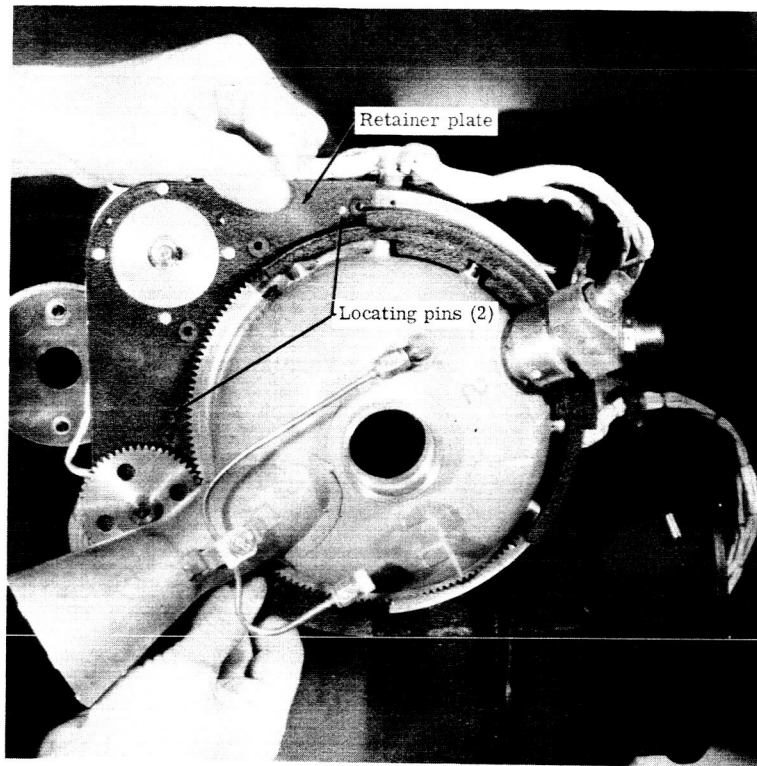

Figure 2-8. Installation of control rocket.
- e. Press the motor into place by hand and, at the same time, start the retainer plate (containing the actuation motor and feedback potentiometer) over the locating dowel pins on the frame as shown in Figure 2-8.